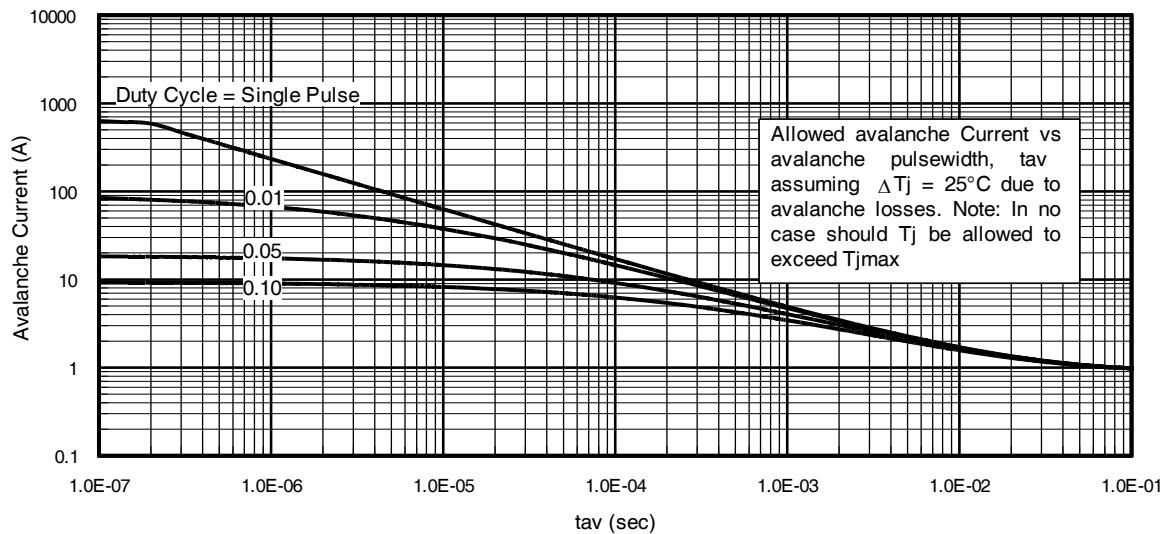

Fig 15. Typical Avalanche Current vs. Pulse width
**Notes on Repetitive Avalanche Curves , Figures 15, 16:
7. ΔT = Allowable rise in junction temperature, not to exceed $T_{j\max}$ (assumed as 25°C in Figure 15, 16).